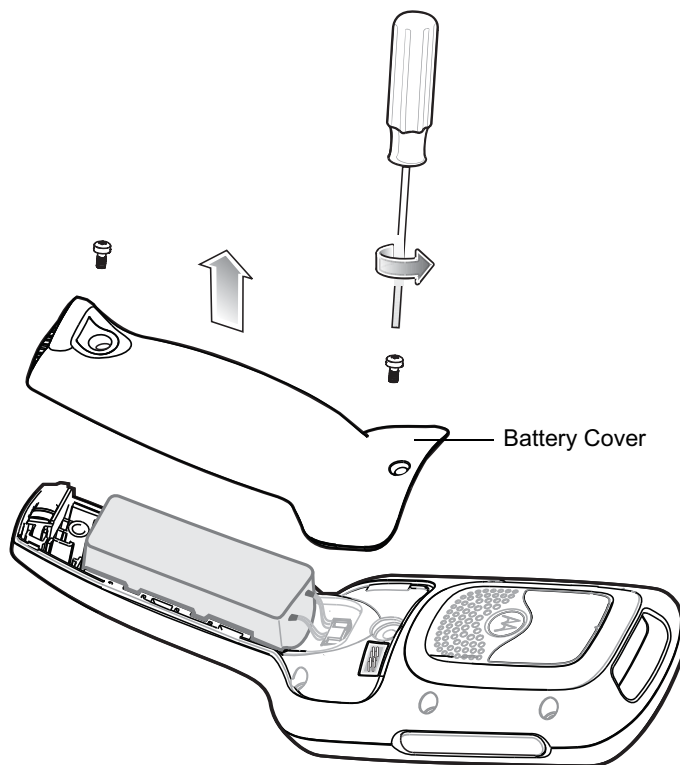

Figure 4-1 Remove Battery Cover
2. Using a T8 Torx drive, remove the two Torx screws securing the battery cover to the back housing of the MC18 (see Figure 4-1).